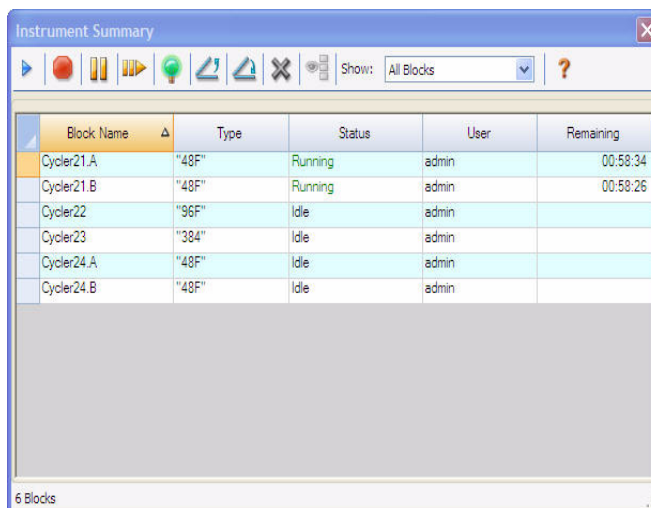

Figure 99. Instrument Summary window.
4. To start the run on selected blocks immediately, click **Start Run**. Alternatively, select the **Start At Instrument** option to start the run at the instrument (Figure 99).